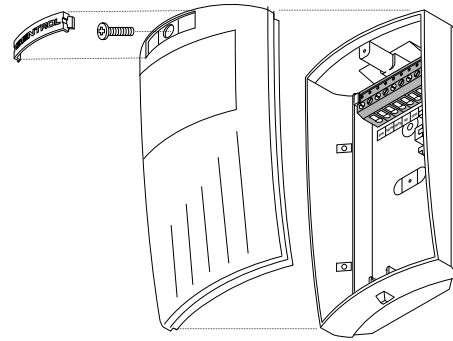

Figure 1 - Detector (exploded)
2. To remove the front cover/electronic module, press down on the lever at the bottom of the unit and pull the cover off. Remove the nameplate and loosen the screw if necessary. To remove the nameplate, insert a small screwdriver into one of the nameplate side slots and gently push in on the nameplate. See Figure 1.
9. Tighten the screw and replace the nameplate. See Figure 1.